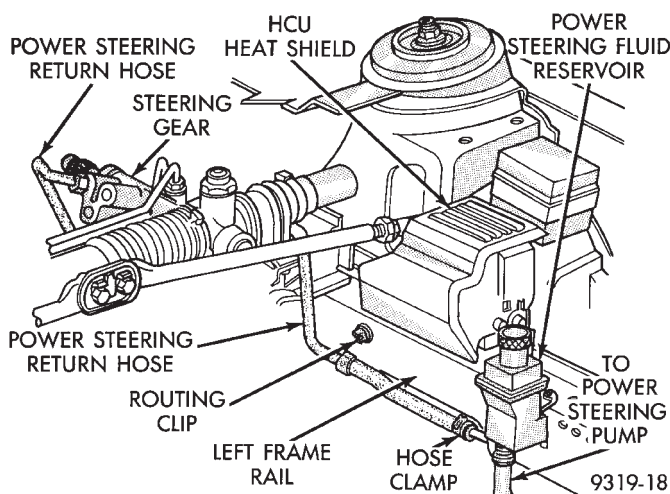

Fig. 13 Power Steering Return Hose Routing And Attaching
(2) Raise vehicle on jackstands or centered on a frame contact type hoist. See Hoisting in the Lubrication and Maintenance section of this manual, for the required lifting procedure to be used for this vehicle.
(3) Unclip the power steering return hose from the routing clip on the frame rail (Fig. 13).
(4) Remove the hose clamp from the power steering return hose at the power steering fluid reservoir (Fig. 13). Let the remaining power steering fluid drain from remote reservoir.
(1) Using a lint free towel, wipe clean the open power steering hose ends, power steering fluid reservoir and steering gear ports.
(2) Install new O-ring and/or washer seal on the end of the power steering return hose to steering gear fitting. Lubricate O-rings or washer seals using fresh clean power steering fluid.
(3) Install the power steering return hose assembly back into the vehicle. Be sure hose assembly is properly routed (Fig. 13).
(4) Install power steering return hose into steering gear return port and loosely install fitting. **Do not tighten power steering return hose to steering gear fitting at this time.**
(5) Install power steering return hose, onto remote power steering fluid reservoir (Fig. 13). Install hose clamp on power steering return hose, at power steering fluid reservoir (Fig. 13). **Be sure hose clamp is installed on hose past upset bead on power steering fluid reservoir.**
(6) Route power steering return hose so it is not in contact with any engine or body components (Fig. 13). Tighten the power steering return hose to steering gear fitting to a torque of 31 N·m (23 ft. lbs.).
(7) Lower the vehicle to the ground.